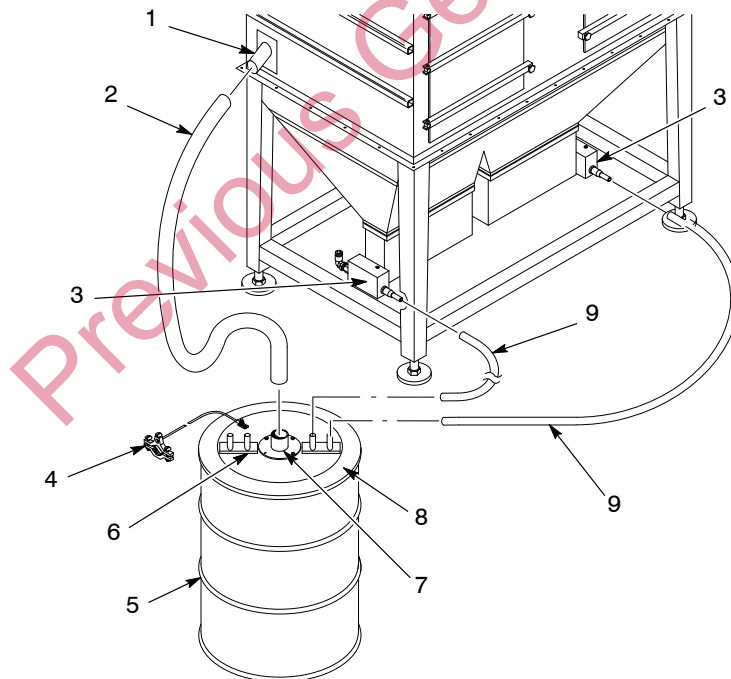

Figure 5-1 Emptying the Waste Hoppers
1. See Figure 5-1. Install the waste lid (8) on an empty 55-gallon drum (5).
2. Connect the ground clamp (4) to a true earth ground.
3. Attach  $\frac{3}{4}$ -in. transfer hoses (9) between the transfer pumps (3) and the hose connectors (6) on the waste lid. Use hose clamps on both ends of the transfer hoses.
4. Attach the vent hose (2) to the waste lid vent stub (7). Attach the other end of the vent hose to the after filter vent stub (1).